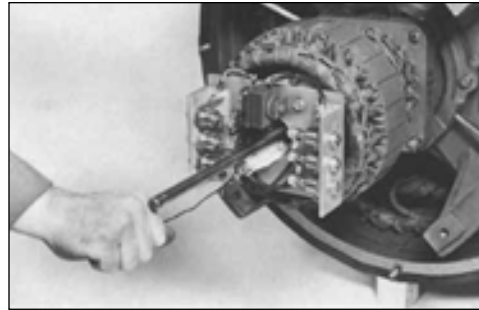
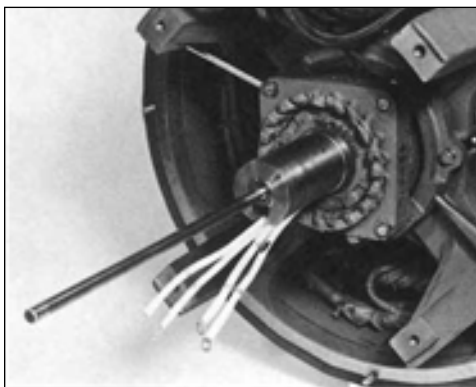

Figure 6-40
Figure 6-39
1. Attach a wire to the main rotor leads and feed the wire through the armature bore and out the lead hole in the aluminum standoff plate. On larger exciters, it will be helpful to install a guide pin in the end of the shaft to support the armature while fishing the rotor leads through (figure 6-39). align the key in the armature bore to the keyway in the shaft. Slide the armature on the shaft while feeding the main rotor leads through the lead hole in the aluminum standoff plate (figure 6-40)